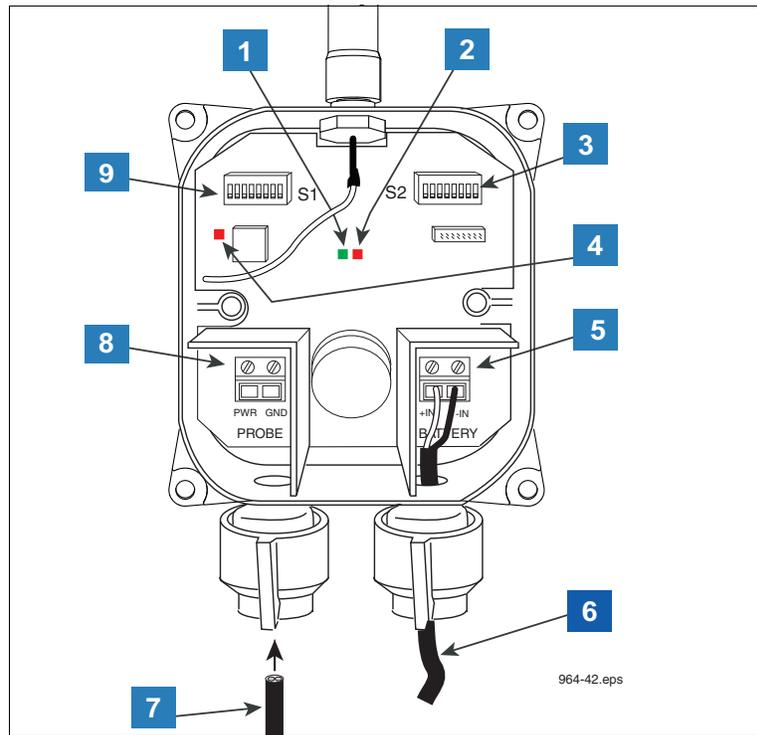

Figure 16. Wiring the Transmitter
5. All sensor cables connect to the PROBE terminal block the SAME WAY - the white wire to the PWR terminal and the black wire to the GND terminal as shown in Figure 16.
LEGEND FOR NUMBERED BOXES IN Figure 16
Each of the transmitters must have a unique Device ID number (1 – 32). Enter this number by setting DIP switches 4 – 8 on S1 (see Figure 16 on page 22) in the 'off' position or 'on' position as shown below.